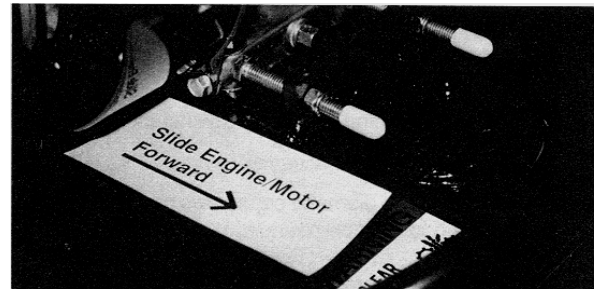

FIGURE 34
4) Using the 1/2 inch wrenches, loosen the engine/electric motor attachment cap screws, and slide the engine/electric motor toward the front of the main frame. FIGURE 34.